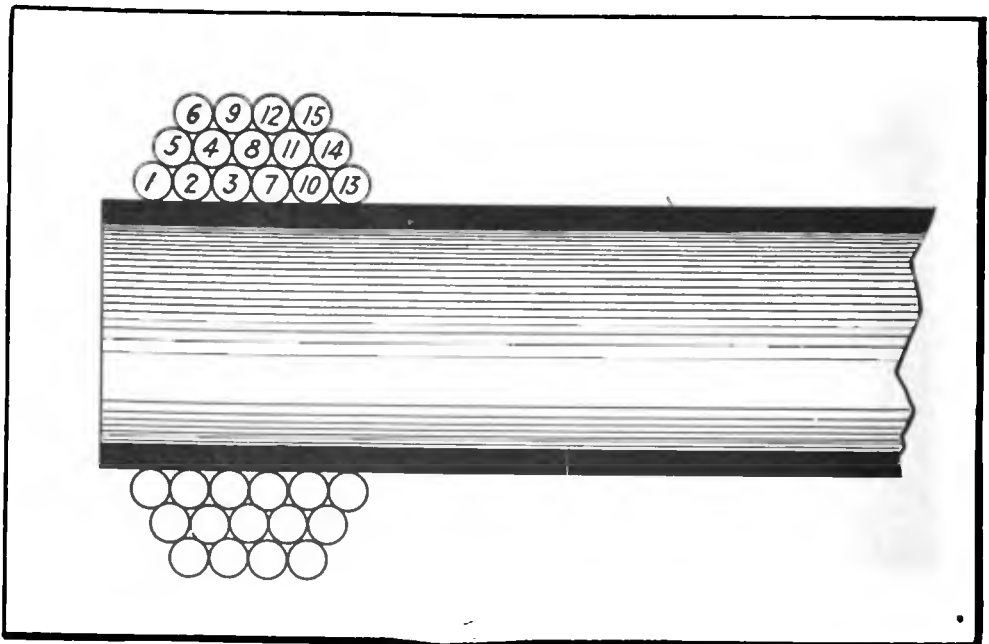

Figure 3
Ans.—(1) Multi-layered tuning coils are gradually being adopted for all types of receiving tuners. It is customary in the small sizes to wind the primary and secondary with two layers of wire, taps being brought out at convenient points for the desired range of wave-length. The advantage of these windings lies in the fact that a given amount of inductance is obtained with less ohmic resistance than in the case of the ordinary single-layered winding. When the coils are short and of large diameter, it is customary to wind the layers closely. Sometimes they are separated by a thin sheet of paraffine paper, but if the coil is long and of small diameter and is to be employed for long wave-length tuning circuits, it consists of three or four layers mounted concentrically with an air space of 1/4 of an inch to 3/8 of an inch between layers. Just what is meant by a staggered winding is shown in figure 3, where 1, 2, 3, 4, etc., show the method by which the turns of a coil are staggered. This method of winding minimizes the distributed capacity between adjacent turns and is therefore often employed.